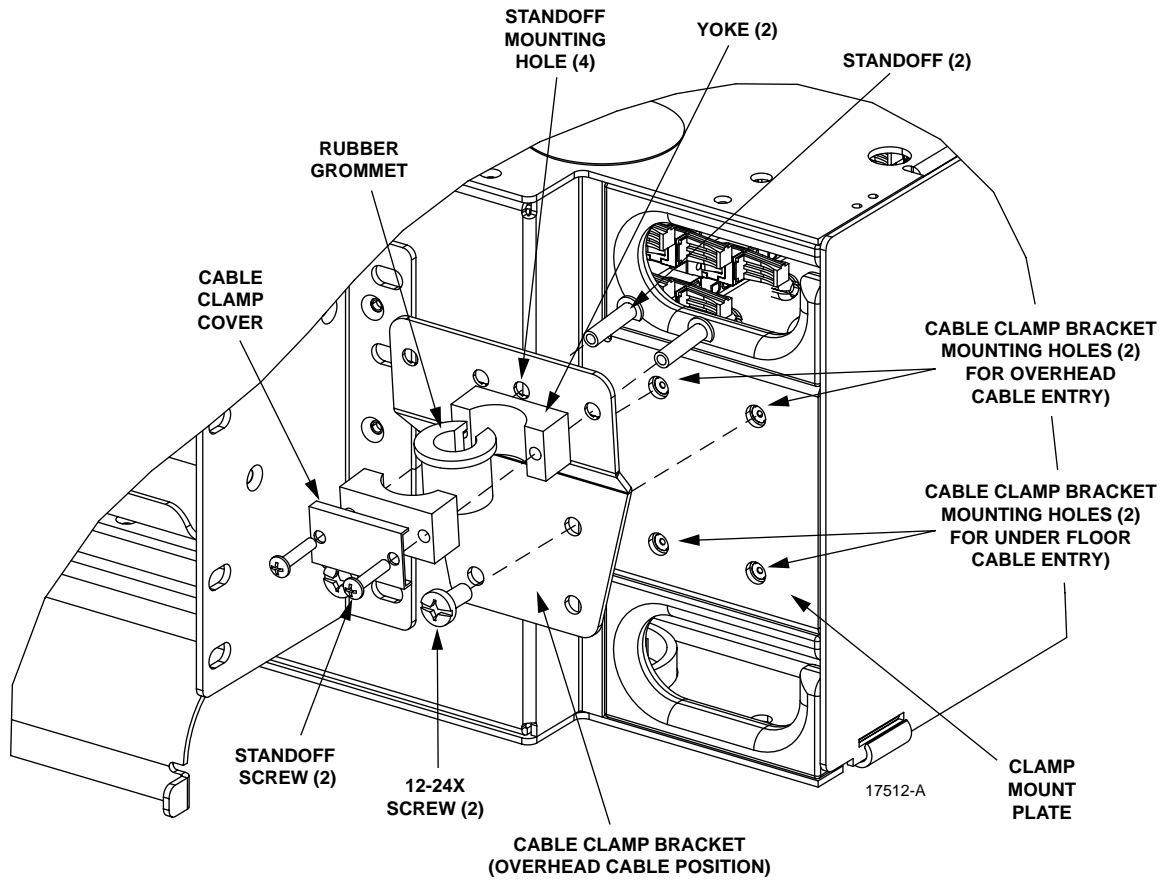
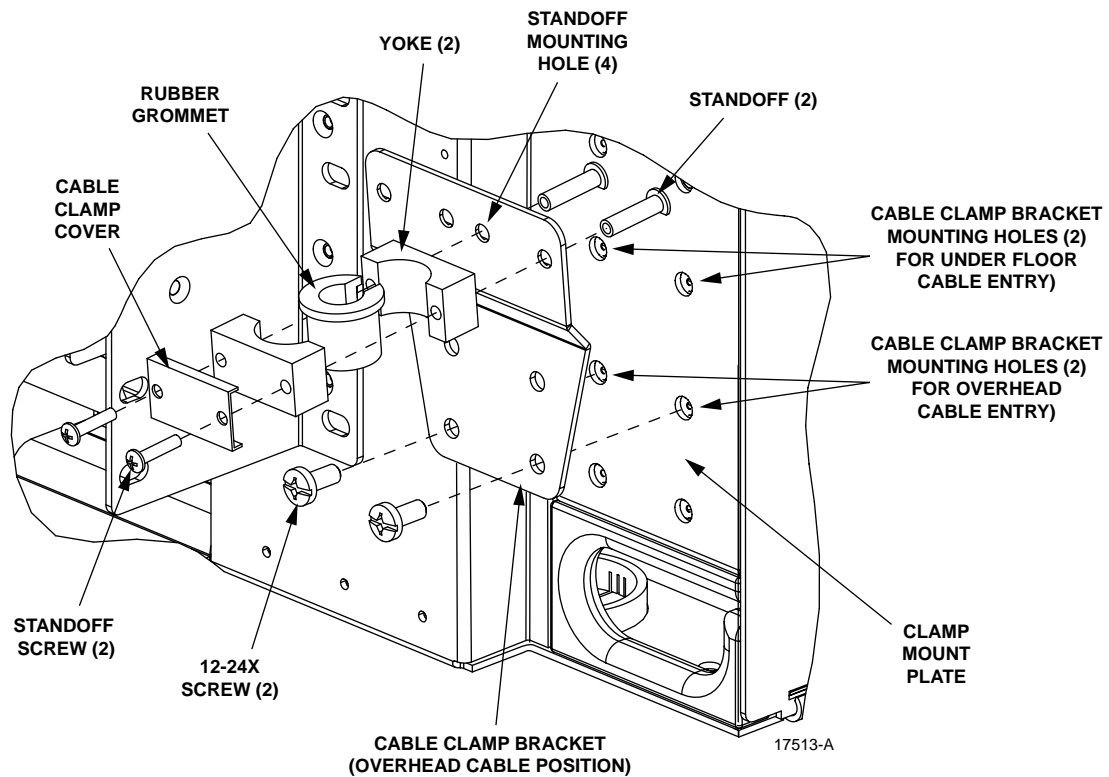

Figure 13. Cable Clamp Components (7-Inch Module)
Figure 14. Cable Clamp Components (9-Inch Module)
After the cable has been prepared as described, a cable clamp can be installed using the following procedure. For names of cable clamp components, refer to Figure 13 for the 7-inch module and Figure 14 for the 9-inch module.
► **Note:** Figure 13 and Figure 14 show the cable clamp bracket positioned for cable routing from above the module with the bracket fastened using the two upper mounting holes in the cable mount plate. For cable routing from below the module, turn the cable clamp bracket upside down compared to how it is shown in the figure and use the two lower mounting holes in the cable mount plate.
4. Stack the cable clamp components as shown in Figure 13 or Figure 14, with the cable secured within the rubber grommet. For correct location of the cable breakout, refer to the cable breakouts provided in subsection 4.3.